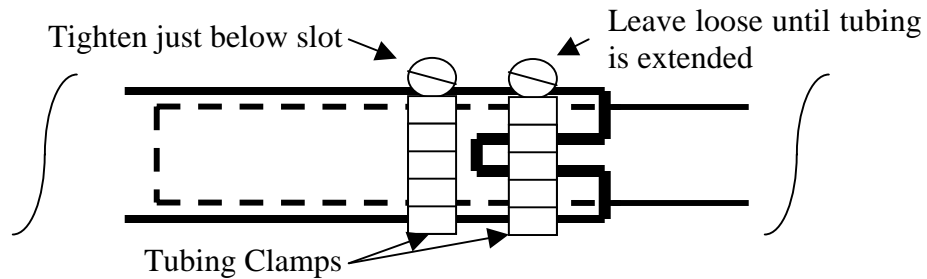

Figure 3: Tubing Clamp Positioning
- 3) Slide two tubing clamps over the 1.75", 1.625", 1.500", 1.325", 1.250", and 1.125" OD aluminum tubes. Use the appropriately-sized tubing clamps for the particular aluminum tubes. Securely tighten one clamp just below the slot cut in the tubes, but leave the second clamp loosely fitted over the tube slot. The tightened clamp will keep the tubes from falling into each other when the antenna is vertically placed prior to telescoping the individual sections. See Figure 3.